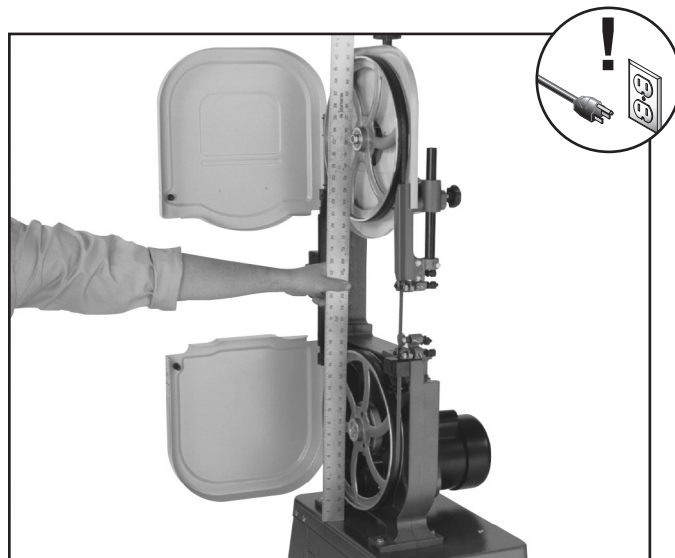

Figure 46. Checking wheel alignment with a straightedge.
2. With the blade on and properly tensioned, hold a straightedge close to the center of both wheels. Make sure the straightedge fully extends across the wheels as shown in **Figure 46**.